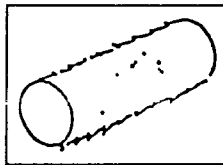

fig. 13
3. Extruded clay: If the surface of clay extruded appears as in fig. 13, remove nozzle and clean.